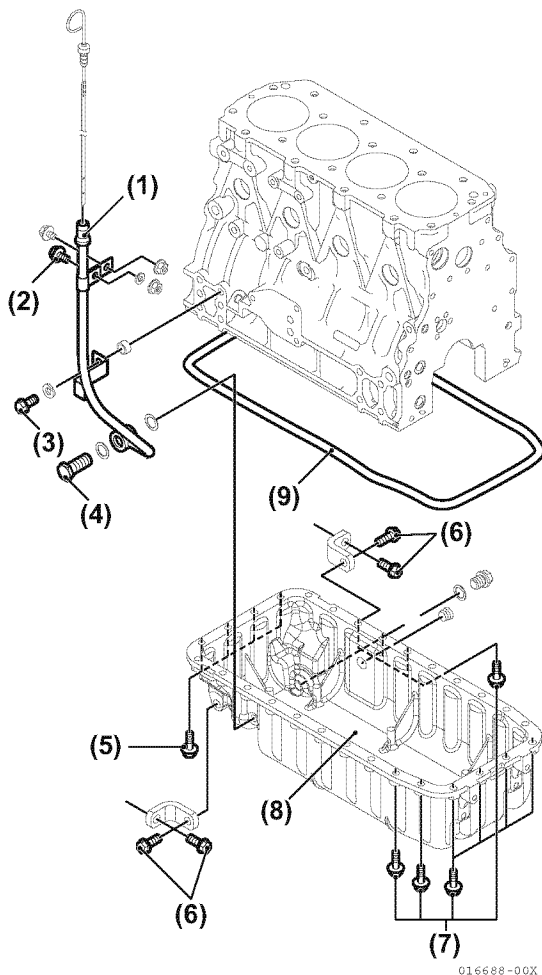

Figure 8-10
2. Remove bolts (**Figure 8-10, (2), (3)**) securing oil dipstick tube to cylinder block or support. Remove piping bolt (**Figure 8-10, (4)**) and oil dipstick tube (**Figure 8-10, (1)**) from oil sump.
3. Remove bolts (**Figure 8-10, (5), (6)**) that secure oil sump to flywheel housing.
4. Remove bolts (**Figure 8-10, (7)**) securing oil sump to cylinder block.
5. Remove oil sump (**Figure 8-10, (8)**) and gasket (**Figure 8-10, (9)**).